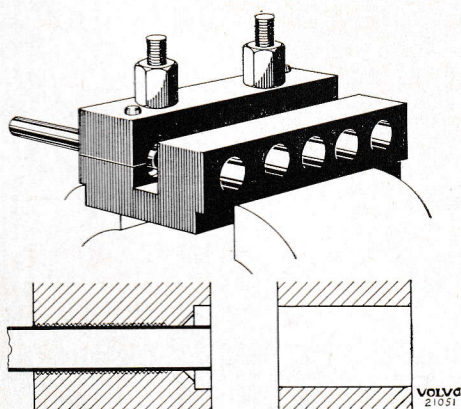

Fig. 55. Flanging a brake pipe.
2. Place tool SVO 2049 in a vice. Insert the pipe so far that its end comes flush with the vice jaw as shown in Fig. 55. Tighten the nuts.